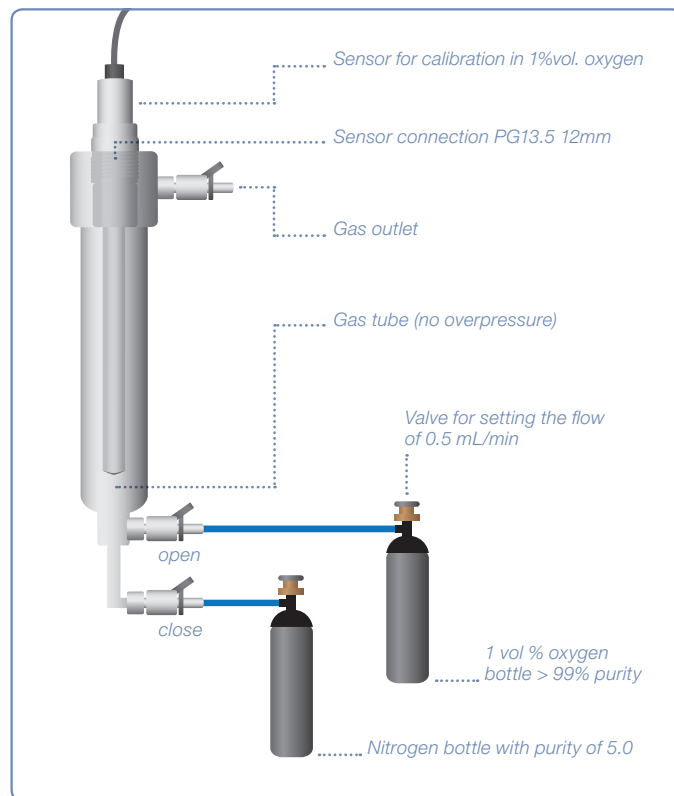

Figure 15: Calibration setup in oxygen point
- 8) Immerse the sensor into an 1 vol % oxygen bottle (> 99% purity) environment (Figure 15) with flow rate: 0.5 mL/min (no overpressure).